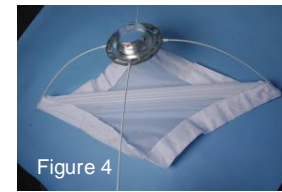

Figure 4
Step 4. Then insert the Frame Rod directly across into the corresponding pocket (Figure 4). Repeat steps above with the two remaining Frame Rods.